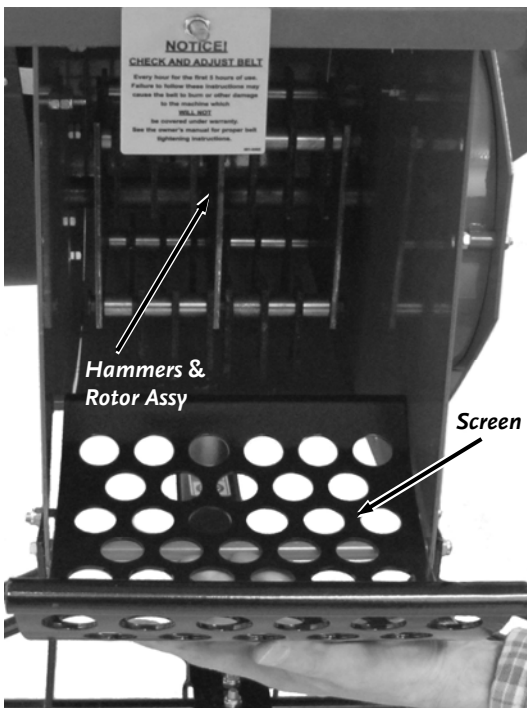

Figure 14
4. Now you can remove the Screen exposing the Shredder Hammers Assembly (**Figure 14**).